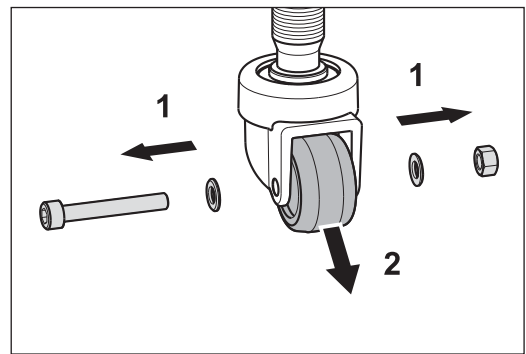

Fig. 69 Remove the screw, the two washers and the nut (1) and remove the wheel from the wheel fork (2).
- Remove the screw with the two washers and the nut from the wheel fork (fig. 69, 1).
- Remove the wheel from the wheel fork (fig. 69, 2).